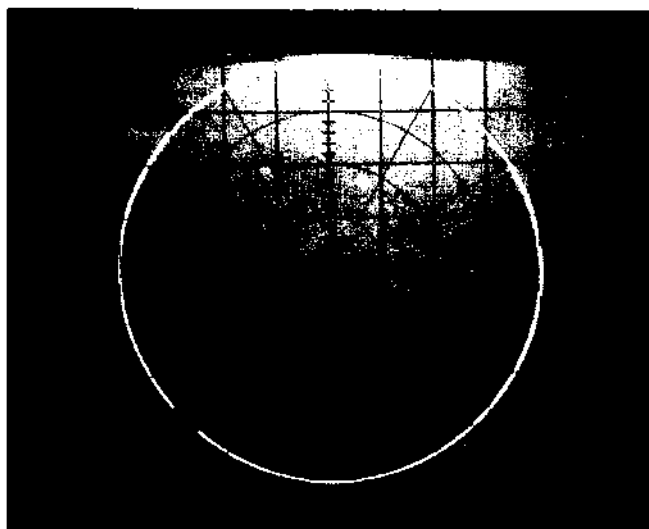

Figure 5-43. Gap at -135 Degrees
- Select SWEEP AUTO, FAST. Connect rear-panel SWEEP OUTPUT to A10TP5 SWP IN. A circle should now be displayed, with a gap. Adjust CHANNEL 2 REFERENCE lever switch until the gap is in the lower-left quadrant of the display, as shown in Figure 5-43.